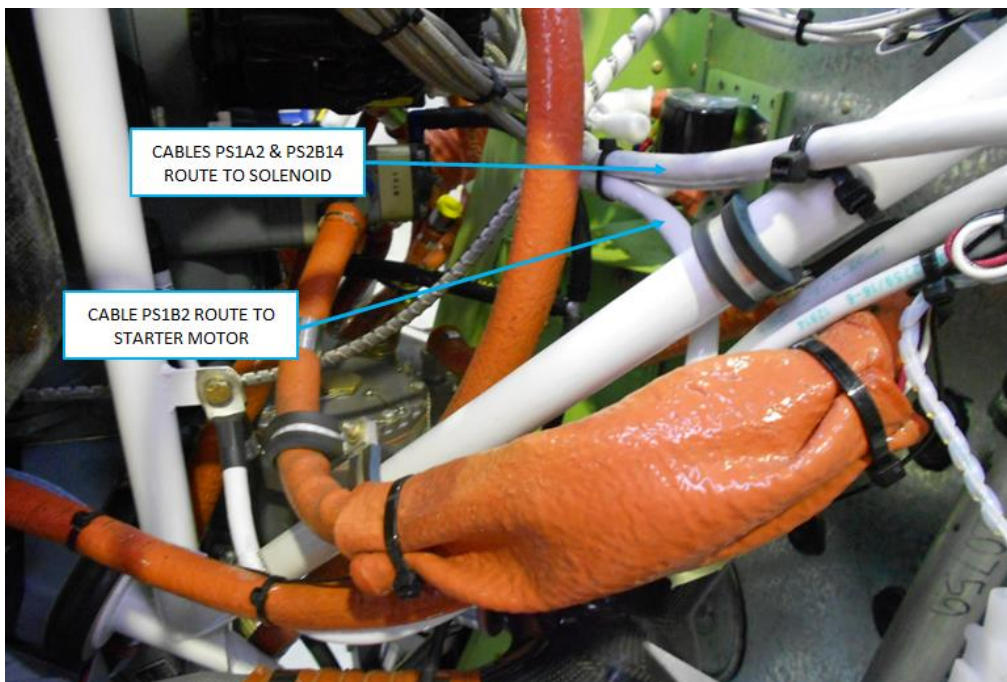

Figure 8: Cable Routing, View Looking Inboard/Aft On Firewall LHS
- 12.3.8 Slide the Terminal nipple into position. Refer to Figure 8 for the cable routing for PS1A2 & PS2B14 from firewall to Solenoid.
- 12.3.10 Slide the cable PS1B2 assembled in step 12.3.9 through the fire sleeve forward to the engine starter motor and attach with the hardware retained in step 12.3.2. Pass the other end through the supplied terminal nipple (Item 10) and attach to the outboard terminal of the solenoid with the hardware supplied. Slide the terminal nipple into position. For routing details refer to Figure 8.